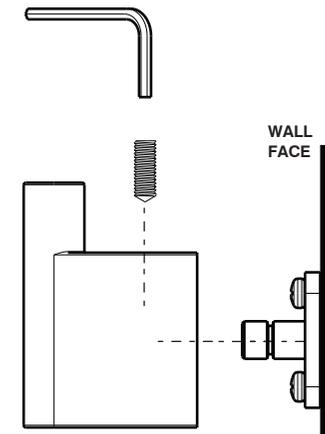

Fig. 2
- Insert rounded end of wall plugs (2) into drilled holes and tap until flush with the wall surface.
- Fit screws (4) through holes in mounting block (3) before screwing into wall plugs (2). Ensure orientation of mounting block is vertical as pictured in Fig. 2.
- Check alignment of mounting block before tightening screws (4).
- Flatten barbs on head flange of wall anchors (1). Insert the wall anchors (1) into the drilled holes until the head flange is against the wall surface.
- Fit the wall anchor M4 screws (5) with washers (6) through holes in mounting block (3) before screwing them into installed wall anchors. Ensure orientation of mounting block is as pictured in Fig. 2. ie vertical orientation.
- Check alignment of mounting block before tightening screws (5).
- Determine a suitable position to attach mounting block (3) so that they can be fixed to a stud or noggin in the wall. Ensure orientation of mounting block is as pictured in Fig. 2. ie vertical orientation.
- Fit suitable screws (4) through holes in mounting block (3) and screw directly into stud or noggin.
- Loosen the grub screw (8) on the accessory using Allen key (9) provided.
- Install accessory (7) onto fixing plate (3), making sure that grub screw (8) is located above as shown.
- With accessory resting securely against wall surface, tighten the grub screw (8) using Allen key provided (9).